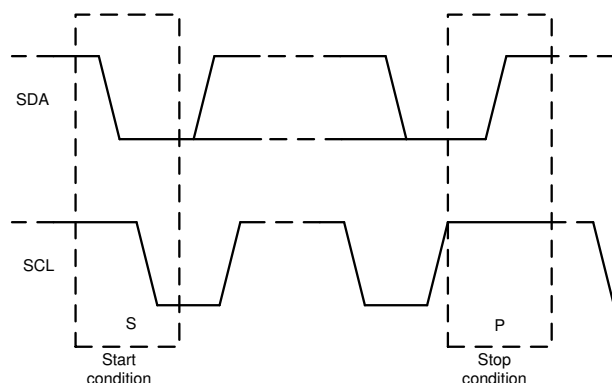

Figure 7-4. Start and Stop Conditions
1. The controller initiates data transfer by generating a start condition. Figure 7-4 shows that the start condition is when a high-to-low transition occurs on the SDA line while SCL is high. All I²C-compatible devices recognize a start condition.
4. Figure 7-4 shows that to signal the end of the data transfer, the controller generates a stop condition by pulling the SDA line from low-to-high while the SCL line is high. This action releases the bus and stops the communication link with the addressed target. All I²C-compatible devices recognize the stop condition. Upon receipt of a stop condition, the bus is released, and all target devices then wait for a start condition followed by a matching address.